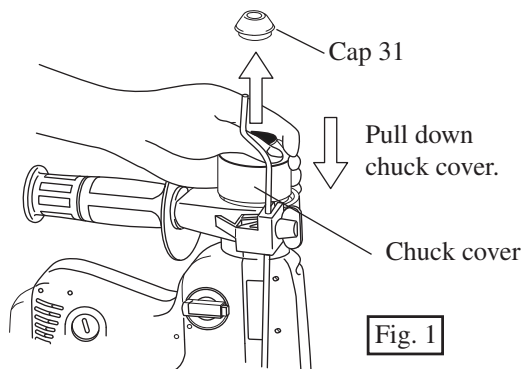
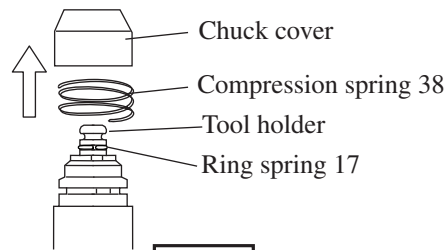

Fig. 1
Fig. 1A
- (1) Pull down chuck cover and detach cap 31 as illustrated in Fig. 1, and then, remove chuck cover and compression spring 38 as illustrated in Fig. 1A.
- (1) Pull down chuck cover and detach cap 31 as illustrated in Fig. 1.